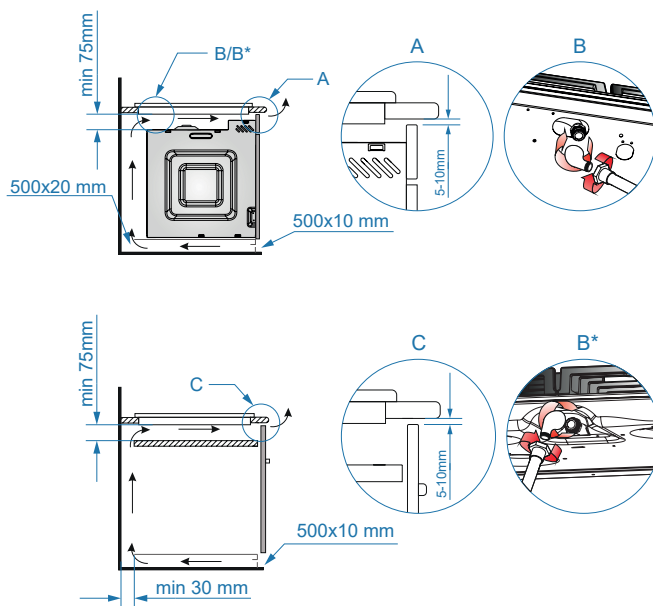

Fig. 9
- If there is no oven to be built in below the hob it is recommended that, an isolation shelf should be fitted to protect the user from high temperatures. If the hob is to be installed above a working drawer, then a partition should be fitted to protect the contents and user from the heat generated during use. This should be fitted at least 75mm below the hob (measured from the gas hob elbow). This panel should have a ventilation space at the rear of greater than 30mm (Fig. 9).
A gap of 75mm is required below the hob for ventilation purposes. This must be measured from the gas hob elbow (Fig.9).